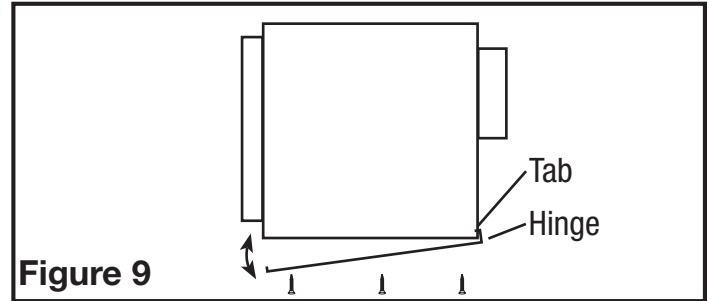

Figure 9
1. This unit includes a hinged access panel. This allows access to the interior of the fan once installed. To access the interior, unscrew the screws holding the panel in place (Figure 9).